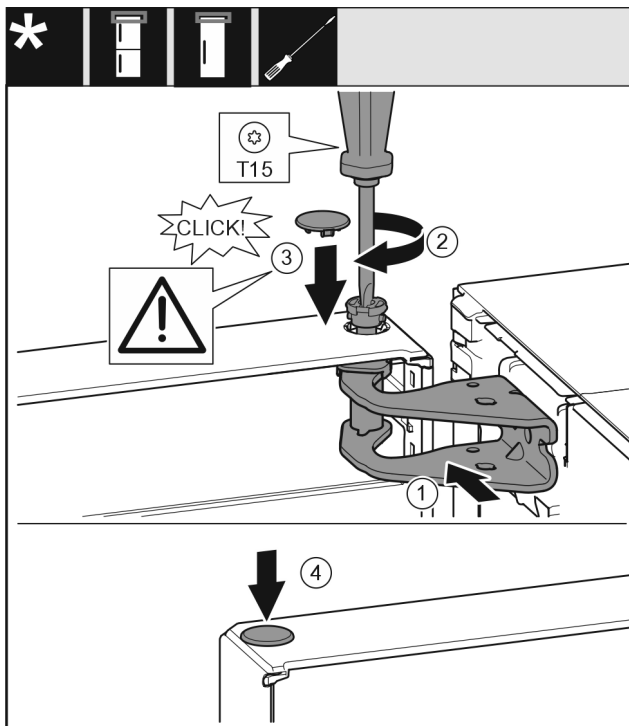

Fig. 23
- ▶ Align the top of the door with opening in the bearing bracket. Fig. 23 (1)
- ▶ Insert the bolt Fig. 23 (2) and use screwdriver to tighten it.
- ▶ Fit the safety cover Fig. 23 (3) to secure the door: Insert the safety cover and check whether the door is resting on it. Otherwise, insert the bolt fully.
- ▶ Insert the plug Fig. 23 (4).